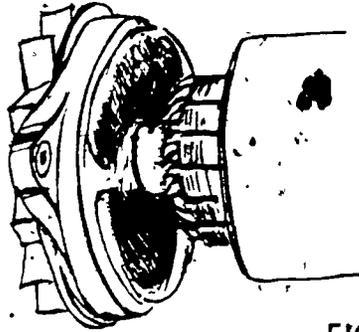

FIGURE 2
3. Remove the drive end frame and armature assembly from the generator housing (Figure 2)